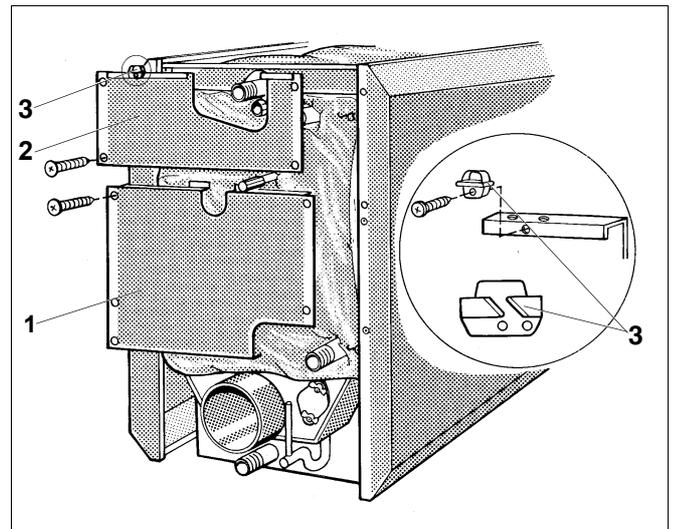

Fig. 11 Install the rear walls
- Secure the rear panel section (Fig. 11, **item 1**) with five self-tapping screws on the side panel angle.
- Insert the upper rear panel section (Fig. 11, **item 2**) with the Z profile angle hooked behind the lower rear panel section (Fig. 11, **item 1**) on the side panel angle and secure with four self-tapping screws.
- Secure one or two cable clips (Fig. 11, **item 3**) or a cable duct on the upper rear panel section (Fig. 11, **item 2**).